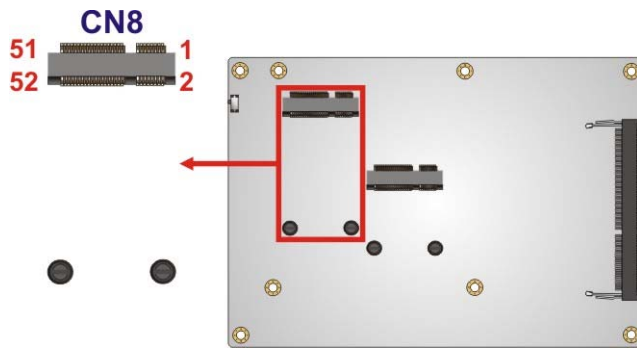

Figure 3-19: PCIe Mini Card Slot Location
- CN Location:** See **Figure 3-19**